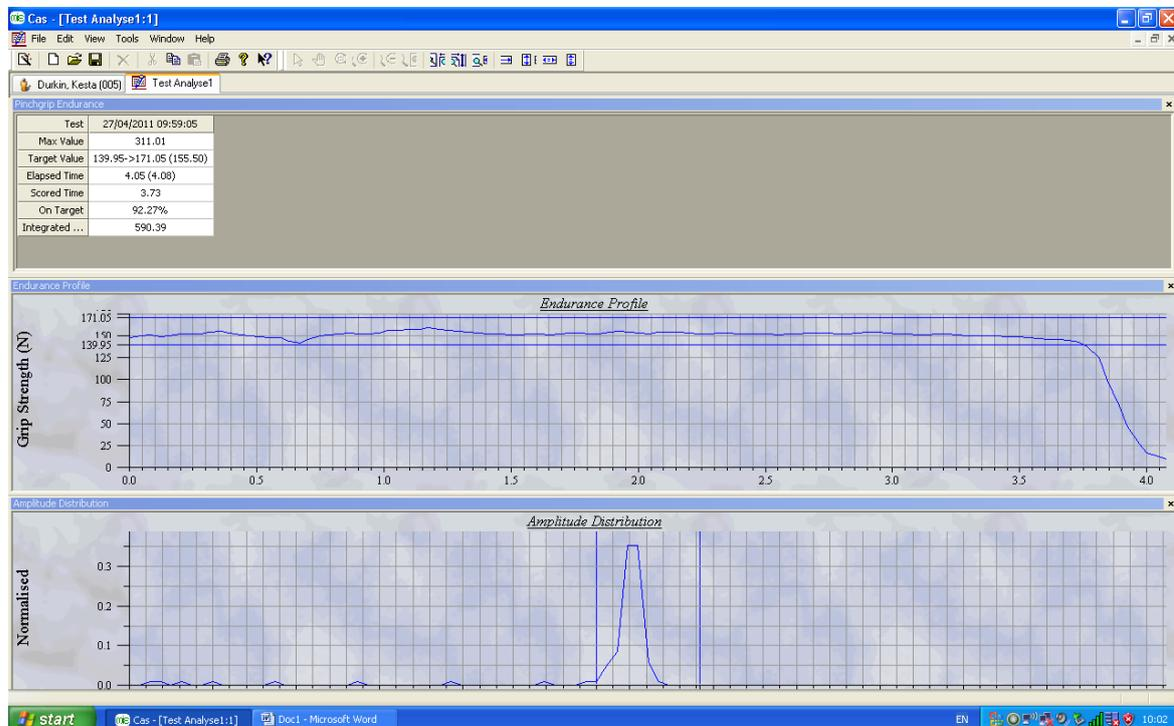

Figure 9.
14. Click "next" and then select "analyse data" to view it now or "skip analysis" which allows you to view it later (figure 9).